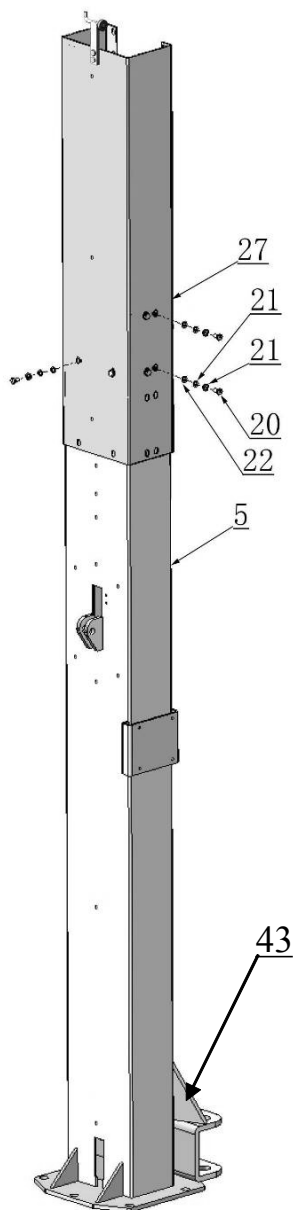

Fig. 14 Low Setting
1. When the ceiling height is less than 3850mm (151 1/2"), connecting the outer columns with the upper hole **(See Fig.14)**.